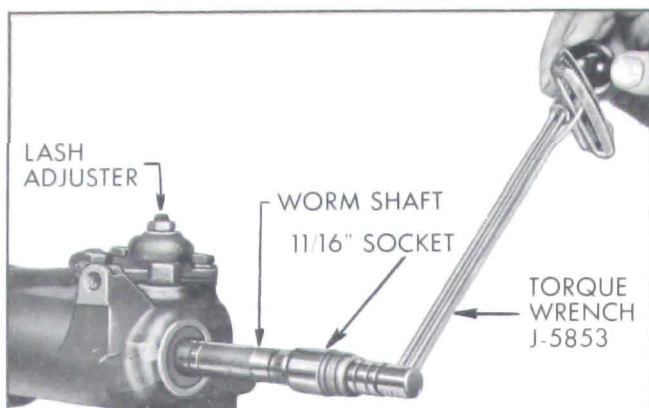

Figure 8-5—Checking Adjustments on Bench
1. Attach torque wrench J-5853 to worm shaft and turn shaft to extreme right or left position. See Figure 8-5.